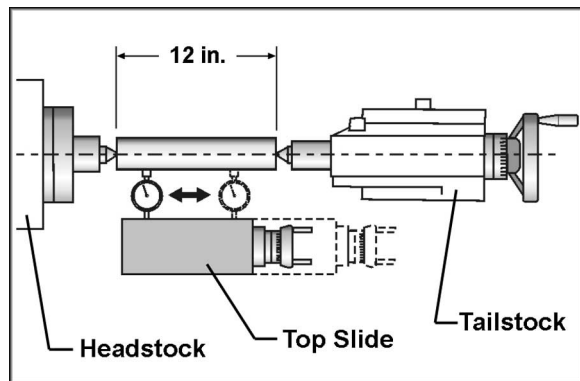

Figure 20
1. Fit a 12" ground steel bar between centers of the headstock and tailstock (Figure 20).